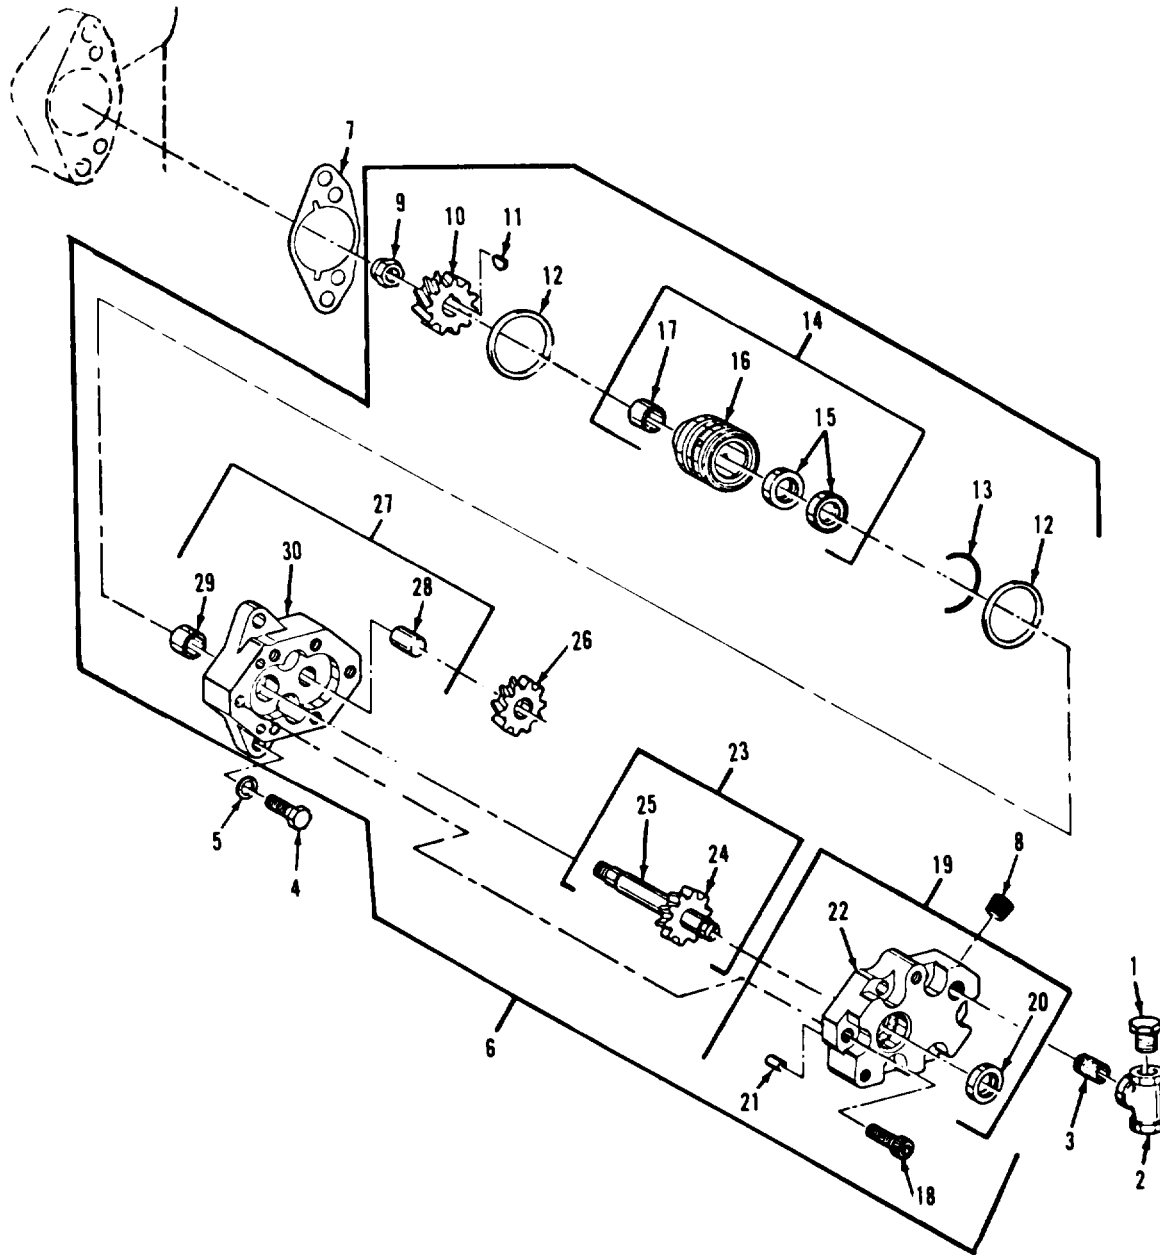

Figure 8-15. Fuel pump group, exploded view
d. Refer to figure 8-15 and remove fuel pump by removing bolts (4), lock washers (5) and gasket (7).
Refer to figure 8-15 and disassemble fuel pump group in the order of index numbers assigned. Pay particular attention to the following:
Legend to figure 8-15:
Refer to figure 8-15 and reassemble fuel pump group in the reverse order of index numbers assigned. Pay particular attention to the following:
a. Refer to figure 8-15 and install fuel pump, secure with bolts (4), lock washers (5) and gasket (7).